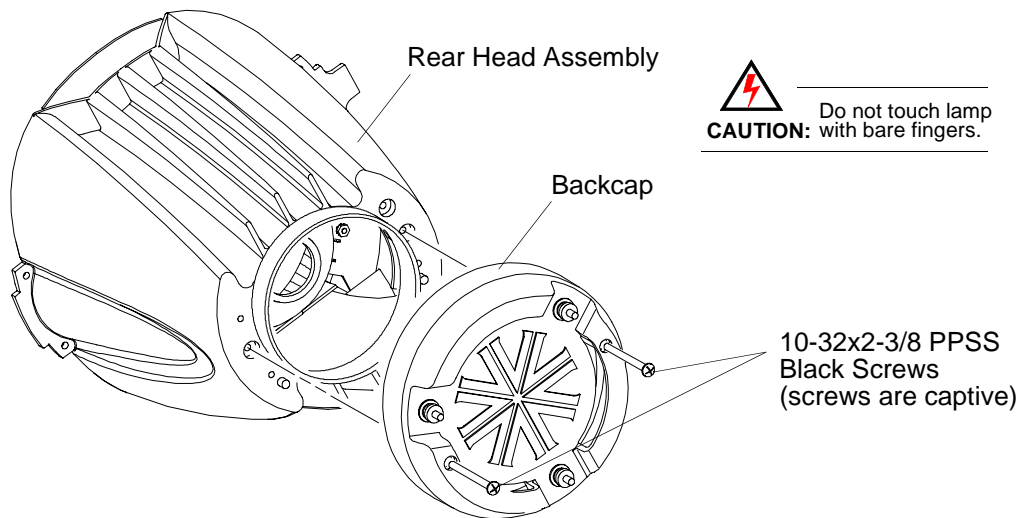

Figure 2-1: Removing Backcap
- Step 1. At backcap, loosen two 10-32x2-3/8" PPSS black screws (Figure 2-1).